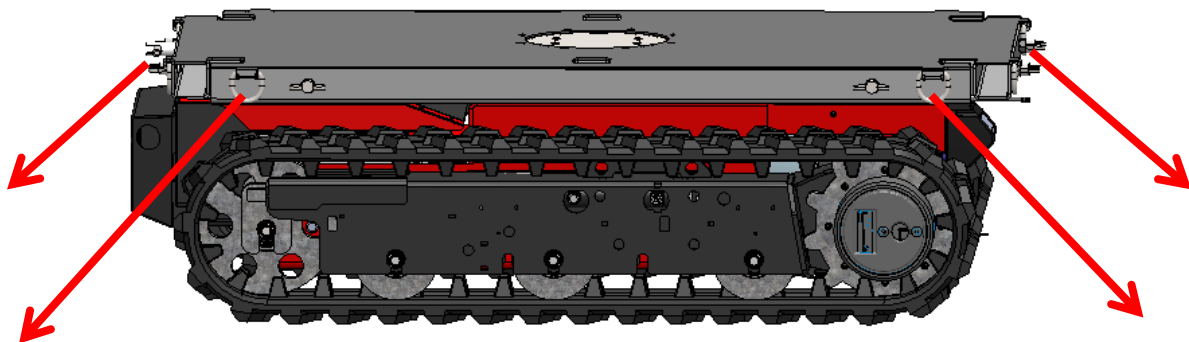

Figure: 24
- Towards the front and sides, lash down at least 0.5x the machine's weight; towards the rear lash down at least 1x the machine's weight (*figure 24*).